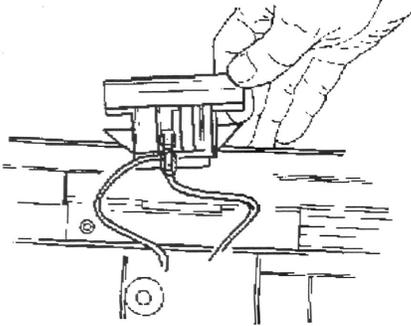

Figure 11
10. Insert the low-voltage switch removed from the old latch assembly in the center slot of the replacement latch, as shown in Figure 11.